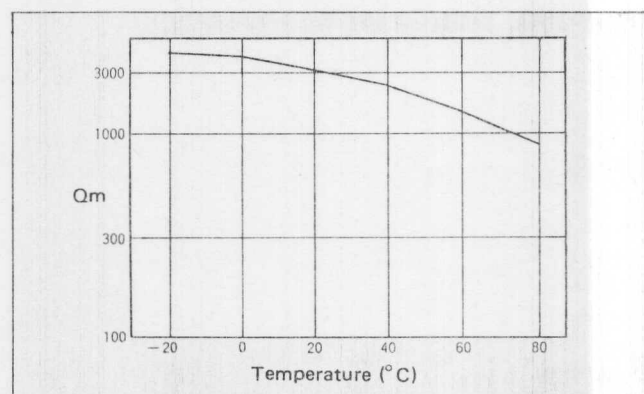

Fig. 7. Q_m -drift of "Ceralock" vs Temperature (CSB455E)
- The mechanical Q (Q_m) of "Ceralock" varies with the drift of ambient temperature. Therefore, each value of C_1 & C_2 should be selected so that "Ceralock" can work at the boundary of required operating temperature range. An example of the Q_m -drift of "Ceralock" vs temperature is shown in Fig. 7.